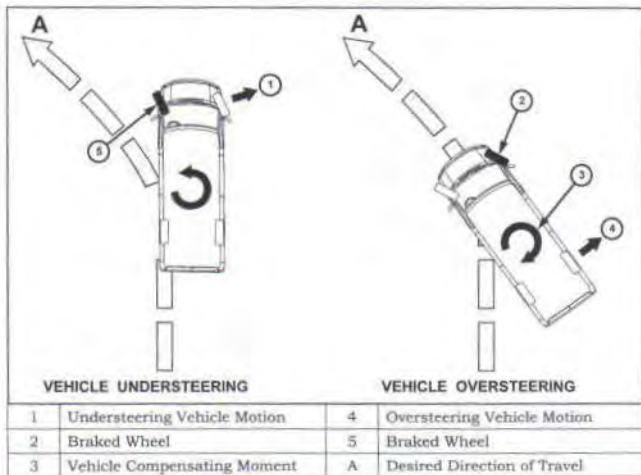

Figure 101 ESP Activation Examples
Refer to Figure 101 for examples of ESP activation. When the vehicle understeers on a left turn it pushes outwards over the front wheels (1). ESP applies a precisely calculated force to the left front wheel (5). When the vehicle oversteers on a left turn, the rear of the vehicle breaks away (4). ESP applies the braking force to the right front wheel (2).